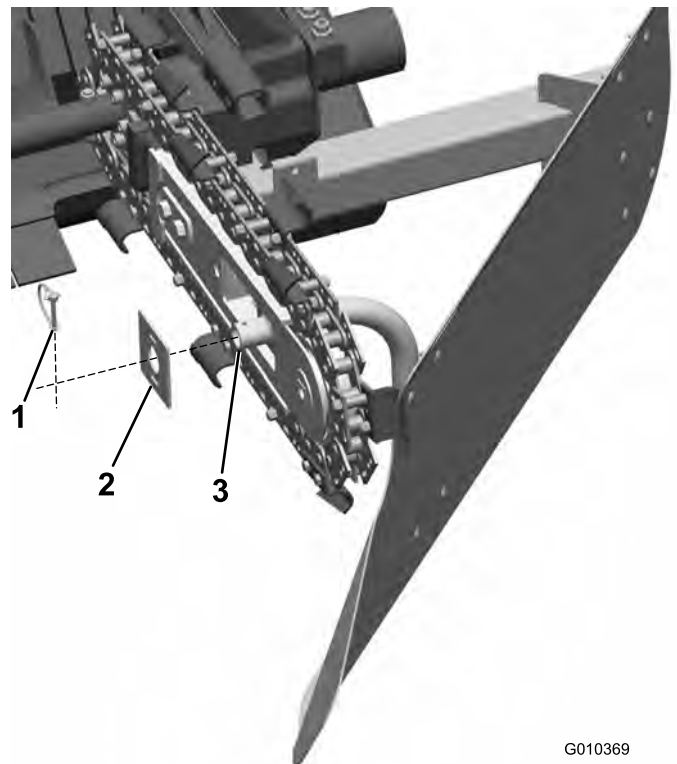

Figure 5
3. Remove the lynch pin and mounting plate from the front mounting bracket (Figure 5).
5. Slide the mounting plate onto the front mounting bracket, securing it with the attached lynch pin (Figure 5).